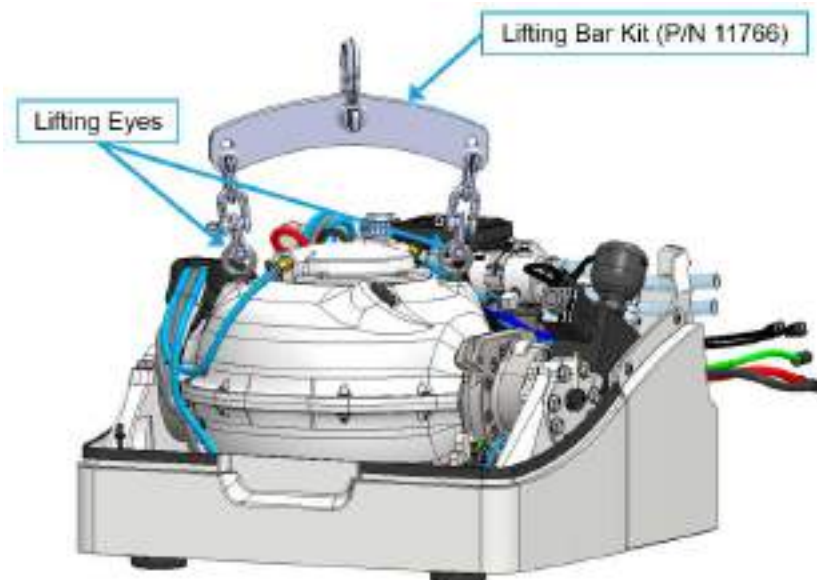

Figure 4: Seakeeper 1 Lifting Arrangement
3. See Figure 4 for proper lifting arrangement. Additional details can be found in the Seakeeper 1 Bolt-In Installation Details (90516).